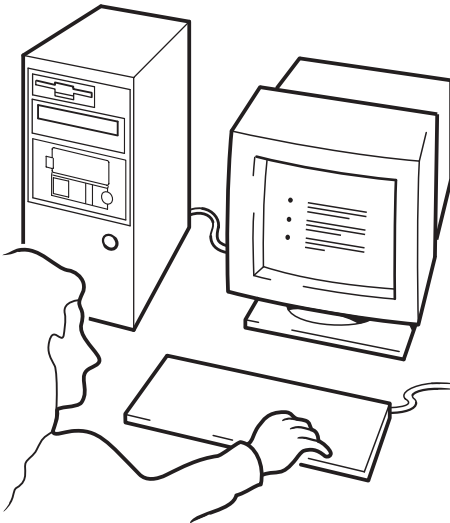

Figure 17c: hp obdr, step 3
- 3 Follow the on-screen instructions to set up the operating system (see figure 17c). (These will vary depending upon the backup software.) Normally, you can accept the default response to all the prompts, for example just press <Enter>.